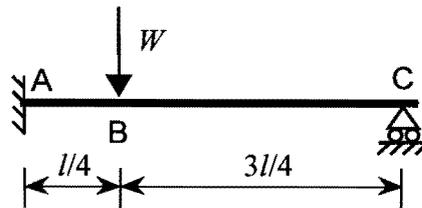

Figure 7
- † 8. Find an optimal lower bound for the collapse load, W_c , of the propped cantilever shown in Figure 7. The beam has fully plastic moment, M_p .